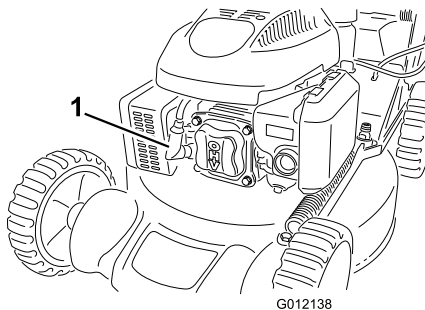

Figure 20
2. Disconnect the spark-plug wire from the spark plug (Figure 20) before performing any maintenance procedure.
2. Disconnect the wire from the spark plug (Figure 20).